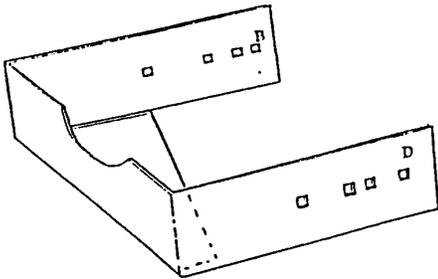
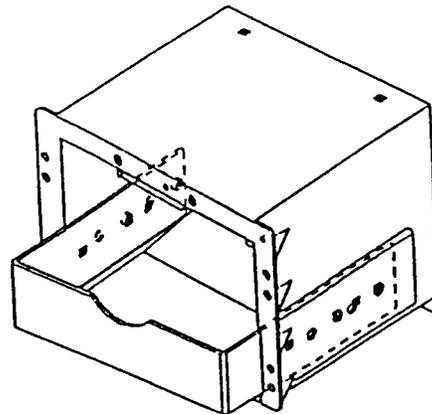

Figure 1A
Figure 2
3. Install the extended discharge member so holes B & D (see figure 1A or 1B) line up with the back holes in the delivery port (see figure 2).
4. Figure 2 shows what the set-up should now look like.